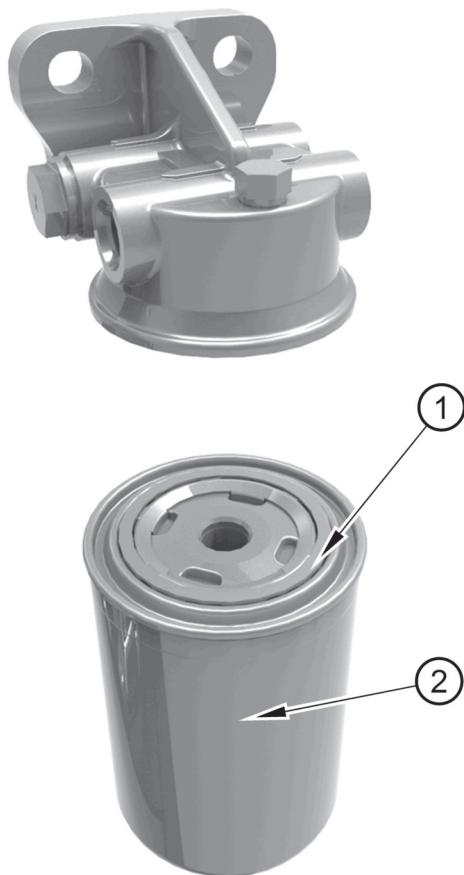

Figure 29
3. Use a chain wrench in order to remove old canister (figure 29 item 2).
4. Lubricate the 'O' ring seal (item 1) with clean engine oil on the new canister. Install the new canister.